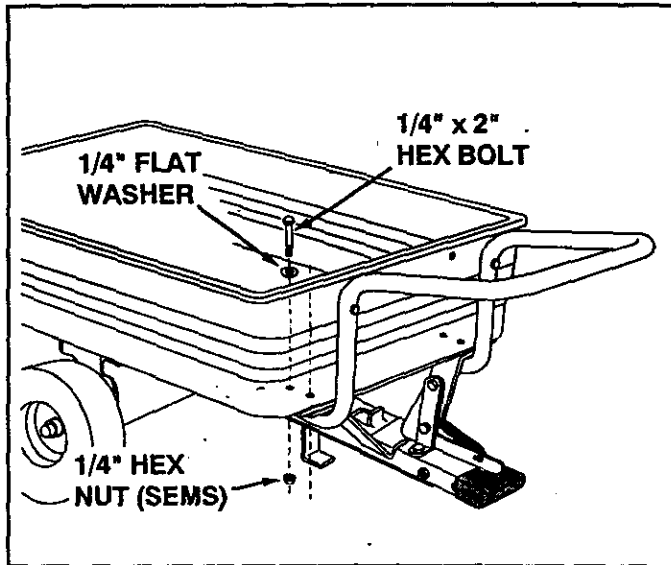

FIGURE 9
- Align the holes in the handle with the holes in the bottom of the poly tray, the latch stand plate and the latch stand bracket. Fasten together using four 1/4" x 2" hex bolts, 1/4" flat washers and 1/4" (SEMS) hex nuts as shown in figure 9. **Tighten.**